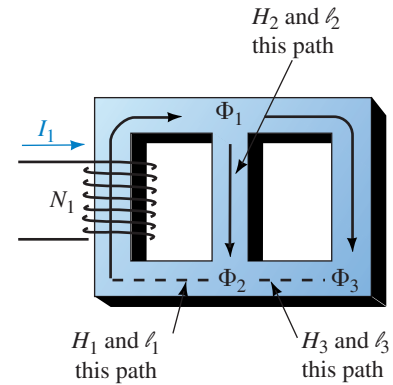

FIGURE 12-47
12. Let H_1 and ℓ_1 be the magnetizing force and path length respectively, where flux Φ_1 exists in Figure 12-47 and similarly for Φ_2 and Φ_3 . Write Ampere's law around each of the windows.
13. Assume that a coil N_2 carrying current I_2 is added on leg 3 of the core shown in Figure 12-47 and that it produces flux directed upward. Assume, however, that the net flux in leg 3 is still downward. Write the Ampere's law equations for this case.
14. Repeat Problem 13 if the net flux in leg 3 is upward but the directions of Φ_1 and Φ_2 remain as in Figure 12-47.